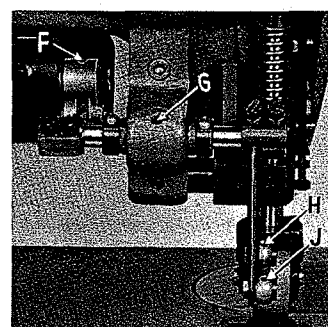

Fig. 2A
Insert hinge studs in holes provided for them in rear of cloth plate. Assemble the upper frame eyelet (A, Fig. 2A).
Thread machine as indicated in Fig. 2A. Threading at check spring has been enlarged for clarity. Needle is threaded from left to right.
Fill main reservoir at plug screw (B, Fig. 2A) and check oil level at gauge (C); oil is at maximum level when needle is in yellow band marked "FULL". Oil should be added when needle is in yellow band marked "LOW". Use a stainless water-white straight mineral oil of a Saybolt viscosity of 90 to 125 seconds at 100° Fahrenheit in the main reservoir. This is equivalent to Union Special specification No. 175.
Oil may be drained from main reservoir by removing plug screw (D, Fig. 2A).
1. Oil the top roller feed crank link at point (F, Fig. 2A).
2. Oil the top roller rocker arm shaft at point (G).
4. Oil the left top roller drive shaft bushing at point (K).